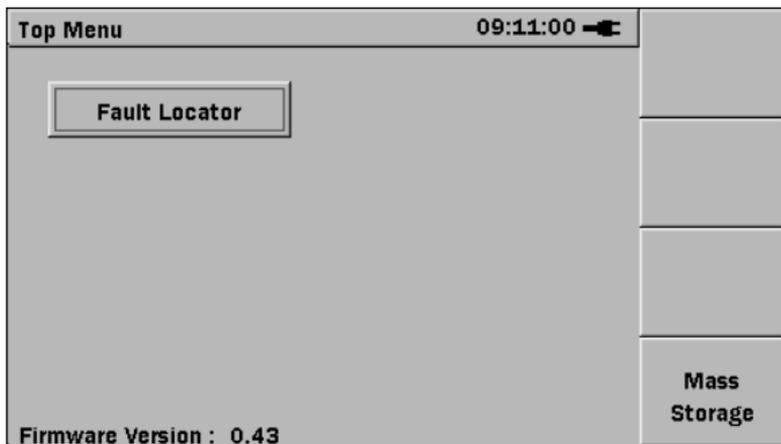

Figure 3-14: Top Menu screen
2. Highlight **Top Menu** and then press the **Set key**. The Top Menu screen appears (see Figure 3-14).